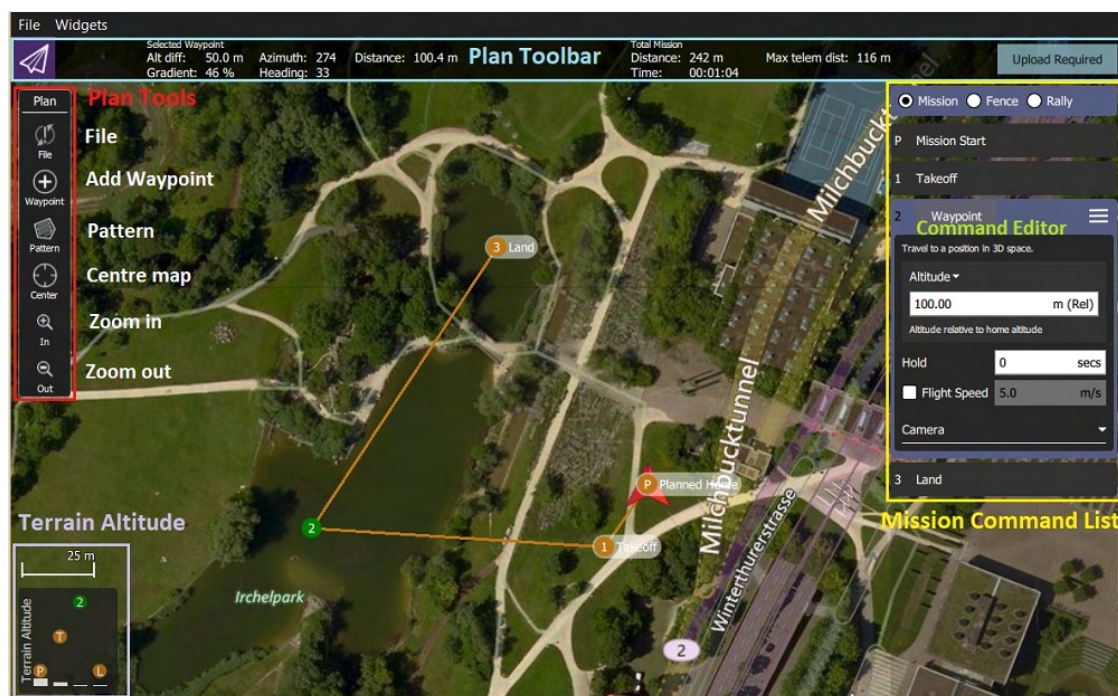

Figure 17. QGroundControl Screenshot of Mission Plan
The main elements of the User Interface (UI) for planning a mission are described below (see Figure 17 on the previous page)